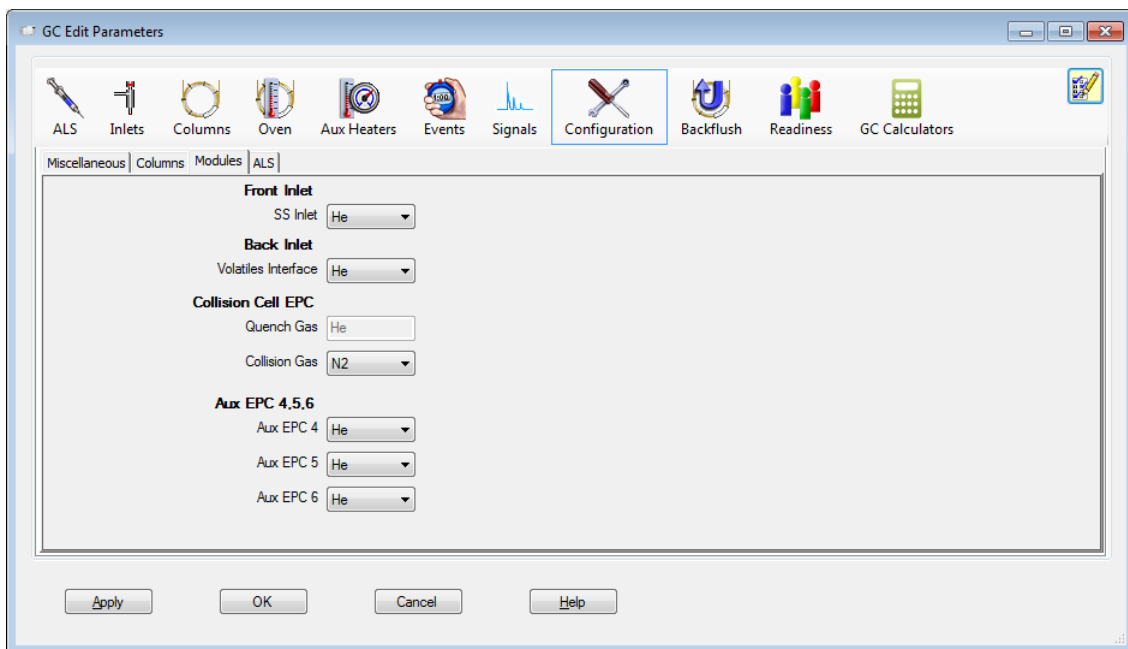

Figure 10 Configure the collision cell gas
- 2 Click the **Configuration** icon and select the **Modules** tab to display the screen. See Figure 10.